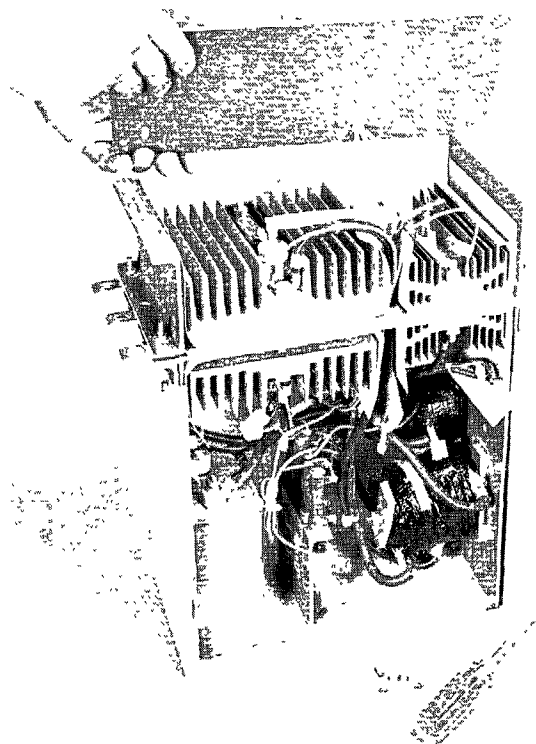

FIGURE 25
3. After locating the defective Press-Pak Main SCR cell (1SP and 1SN) follow the instructions for Press-Pak Main SCR cells, 40—60 KVA; 230V AC units. See Fig. 25.
4. After locating the defective stud mounted commutating SCR cell (CSP and CSN) follow the instructions for stud mounted commutating SCR cells, 10—30 KVA; 230V AC or 460V AC units. See Fig. 25.